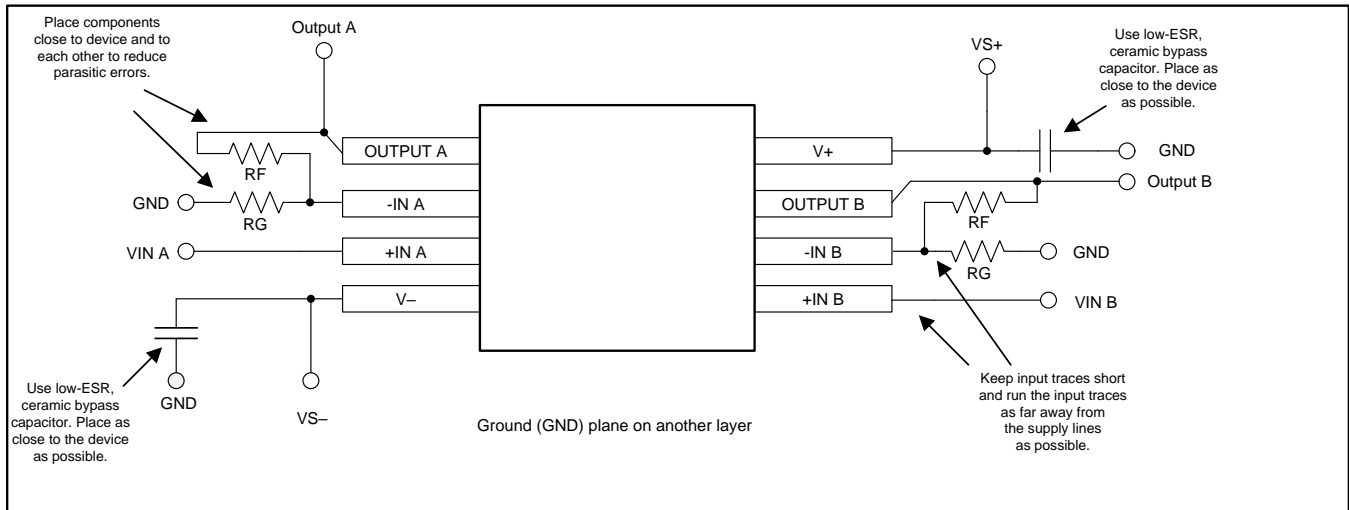

Figure 42. Operational Amplifier Board Layout for Noninverting Configuration
- Place the external components as close to the device as possible. As shown in Figure 42, keeping R_F and R_G close to the inverting input minimizes parasitic capacitance.